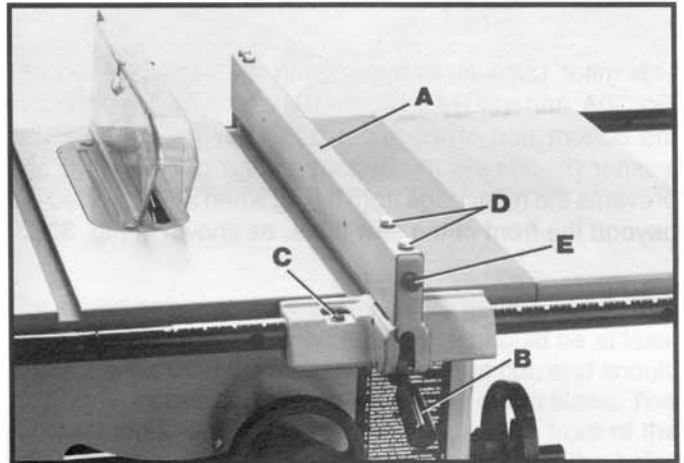

Fig. 29
1. To move the fence (A) Fig. 29, along the guide rails, lift up on the fence locking lever (B), slide the fence to the desired location on the guide rails and push down on the locking lever (B) to lock the fence in position.
2. A pointer (C) Fig. 29, is supplied to indicate the distance the fence is positioned away from the saw blade. If an adjustment to the pointer (C) is required, loosen the screw that fastens pointer to fence bracket and adjust the pointer accordingly.
4. Position the fence at one edge of the miter gage slot, as shown in Fig. 29. Clamp the fence to the guide rails by pushing the locking lever (B) to the down position. The edge of the fence should then line up parallel with the miter gage slot. If an adjustment is necessary, proceed as follows:
5. Loosen the two screws (D) Fig. 29, and move the rear end of the fence until the fence is parallel to the miter gage slot. Then tighten the two screws (D).
6. Clamping action of locking lever (B) Fig. 29, can be adjusted by tightening or loosening screw (E).